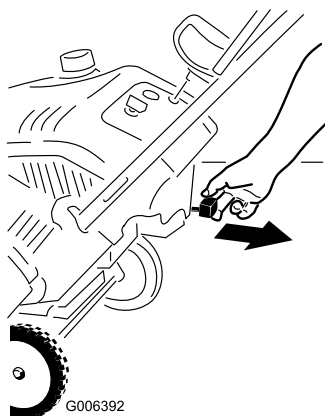

Figure 12
2. Pull out the choke lever (Figure 12).